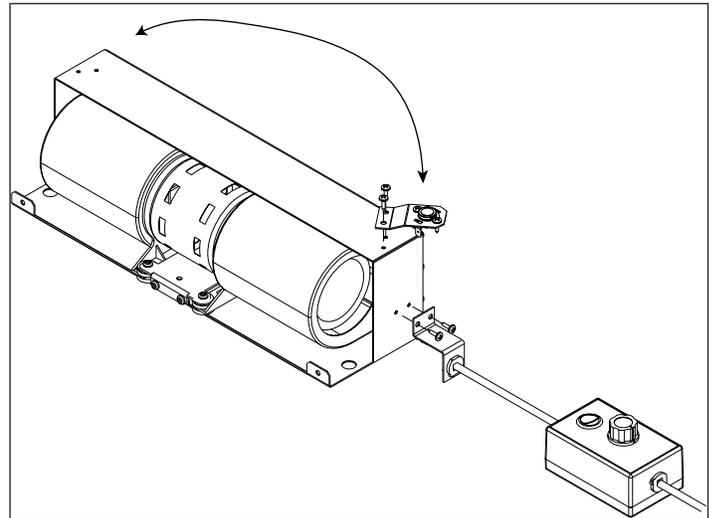

Figure 42.2
3. Using phillips head screw driver, remove snap disc bracket and cord restraint bracket from right side. **Figure 42.2**